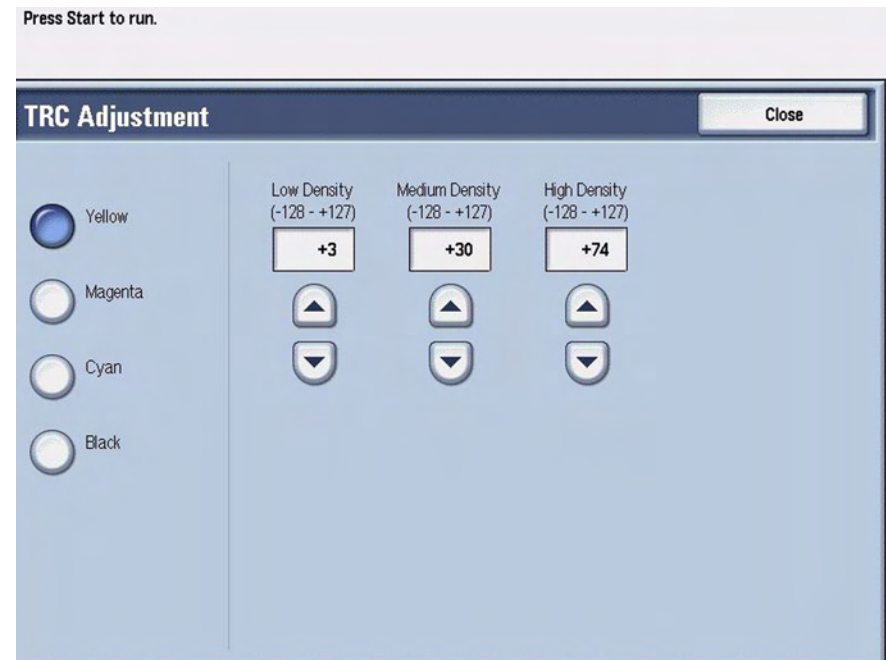

Figure 1 TRC Adjust sample screen
4. Select the button of the color whose density you wish to change, and then use the scroll buttons to display the desired value(s); the center of the range is 0, and the range is from -128 to +127 (Figure 1).